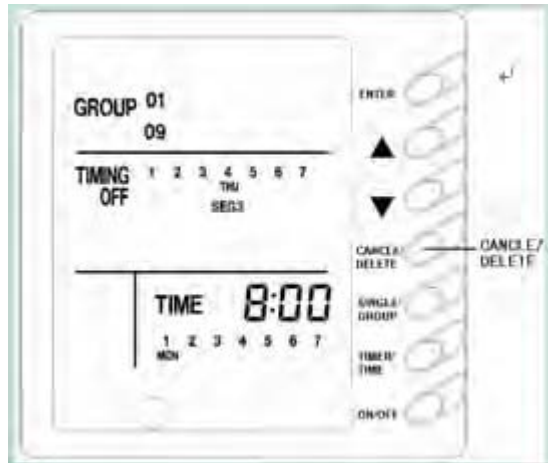

Fig.14.
7) To cancel timer of a certain time period in a certain day, long-press “**cancel/delete**” in process 4) and “**TIMING OFF**” displayed. But timer setting can be conducted at other time period at that day (fig.14).
E.g.: In fig.14, timer setting for the 3rd time period in Thursday for unit 1 and unit 9 are deleted.